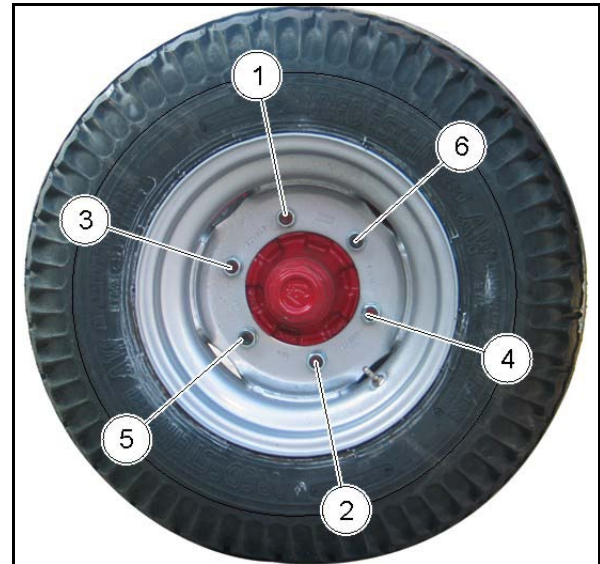

Fig. 107
3. Keep to the order illustrated in Fig. 107 when loosening and tightening the wheel nuts.